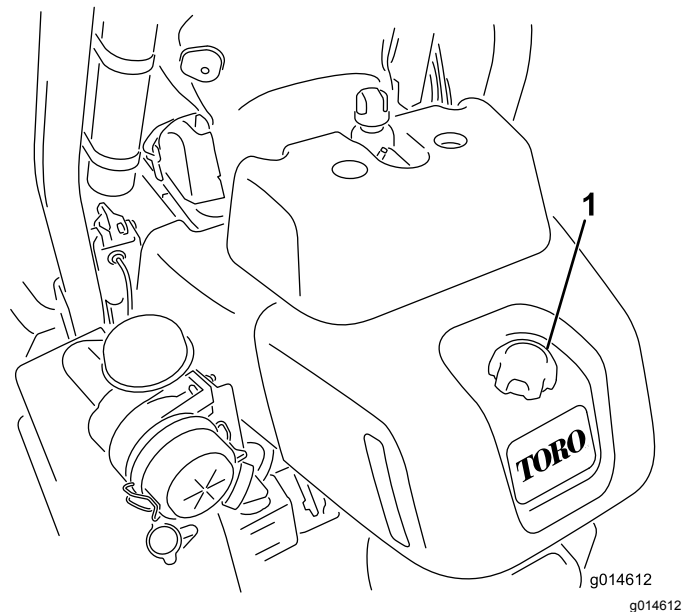

Figure 24
1. Clean around the fuel-tank cap (Figure 24).